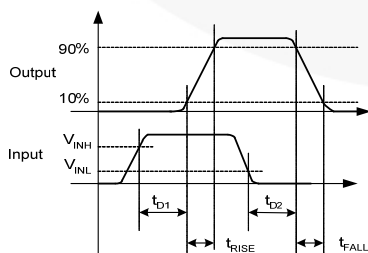
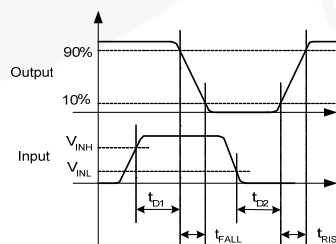

Figure 6. Non-Inverting Timing Diagram
Figure 7. Inverting Timing Diagram
9. See Timing Diagrams of Figure 6 and Figure 7.